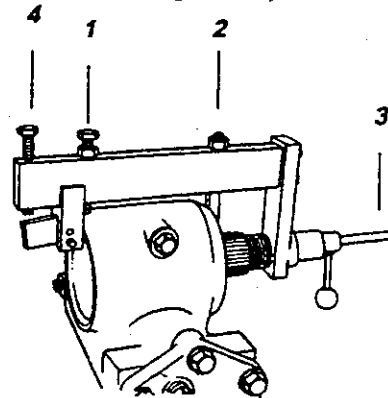

Fig.39
14.1.1 Screw tool [20] onto the steering so that it is parallel to the steering. The caulking tool must fit into the caulking groove as accurately as possible (*Fig.39*).